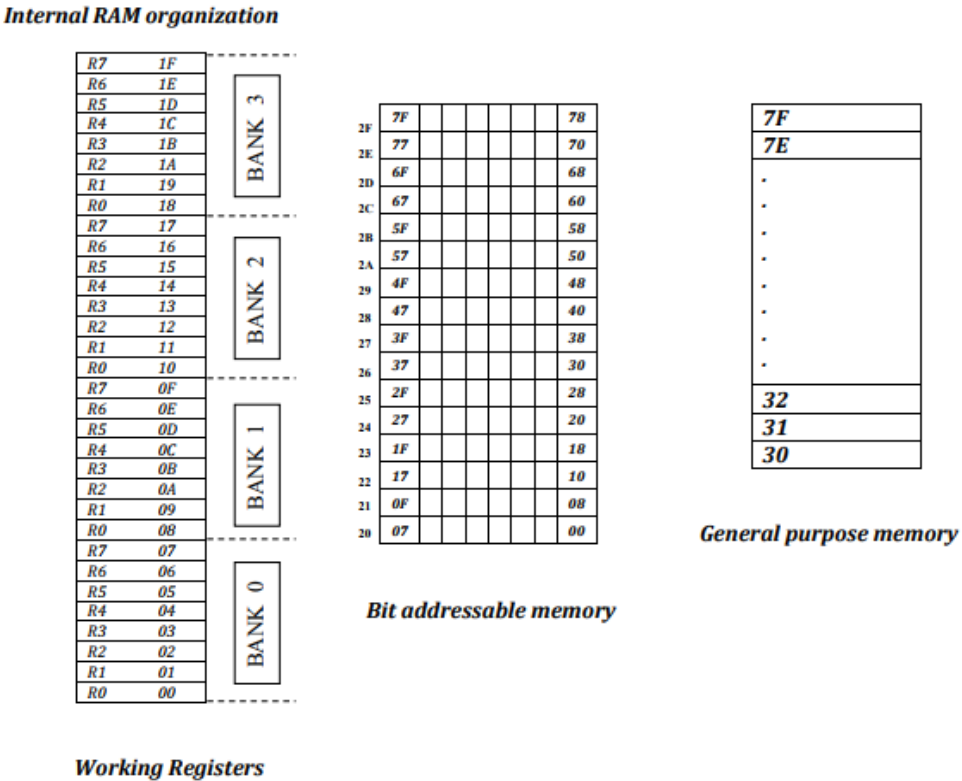

Fig. 1.4: Internal RAM organisation
- **Fig. 1.4 shows Internal RAM organisation of 8051**